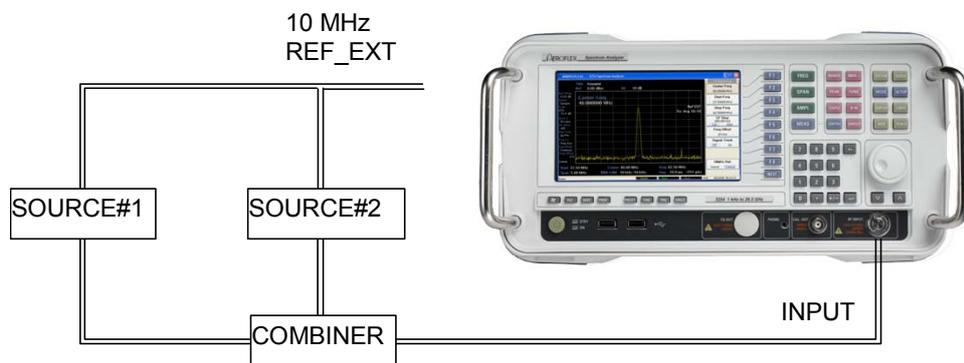

Fig. A-17 Third-order intermodulation equipment setup
- 1 Connect the equipment as shown in Fig. A-17. Press [PRESET], [*Preset*].